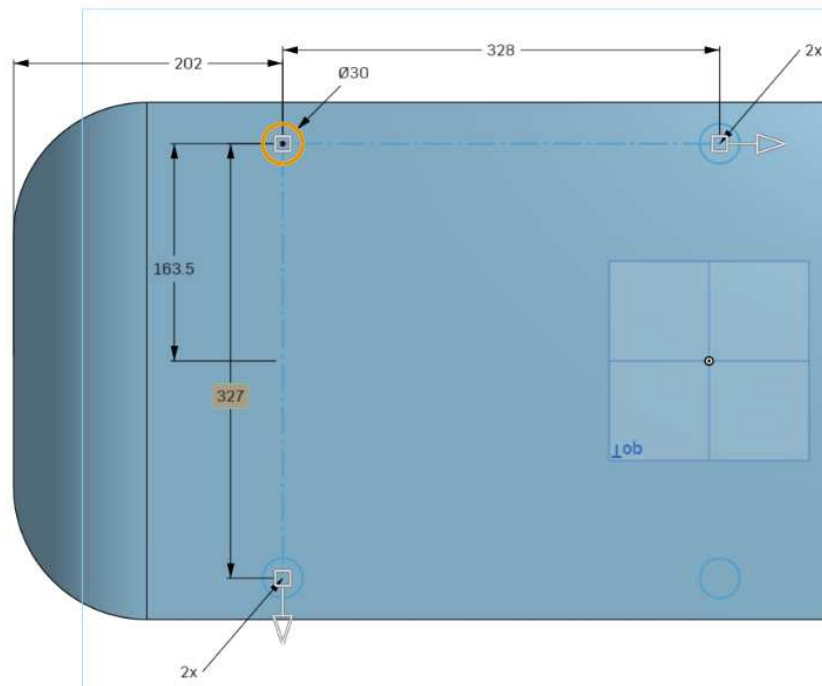
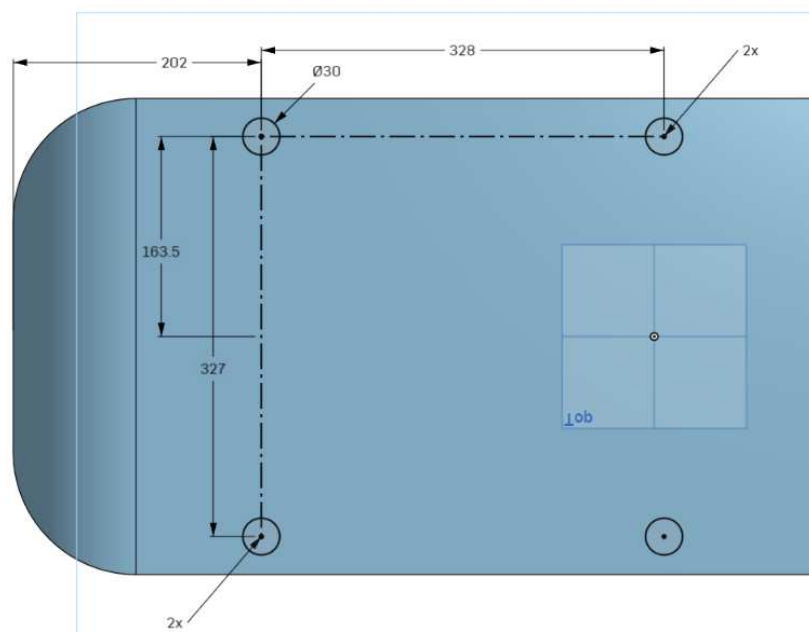

Figure 2.19: Using the "Linear Pattern" tool.
Figure 2.20: Resulting linear sketch pattern.
- 17) Select the “Linear Pattern” tool () and click on the circle. Enter “2” to the horizontal and vertical copy multiples with 327 mm (163.5 x 2) and 470 mm respectively to distances (figure 2.19) and click the left mouse button to confirm. The generated sketch should resemble the figure 2.20 below.